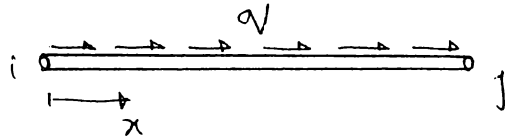

Fig. 5
- (b) The bar element shown in Fig. 5 is subjected to axially distributed force, q . Employ proper shape functions to equate the Wq with U and obtain the equivalent nodal forces. (12)